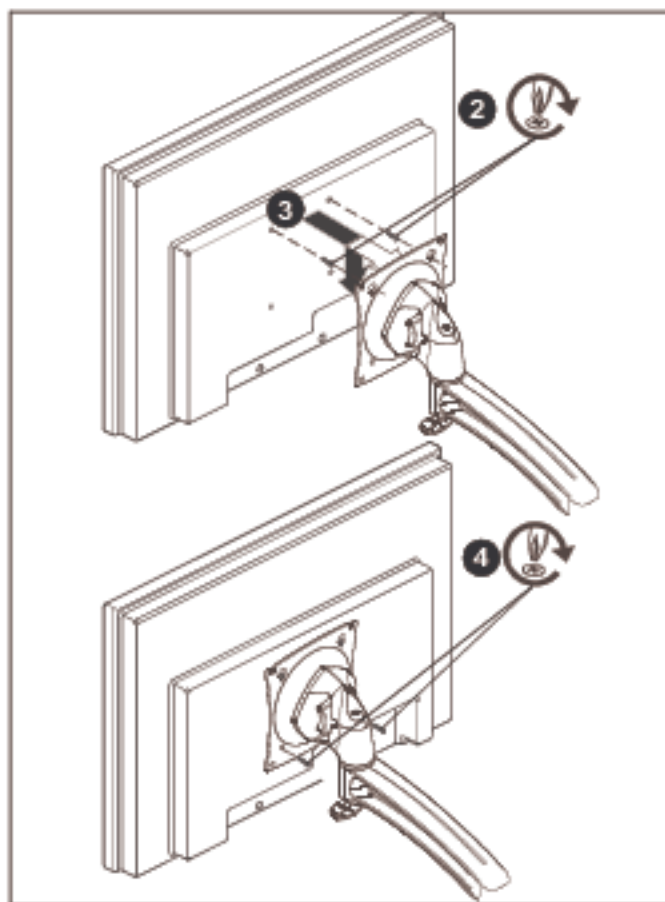

Figure 5
1. Ensure faceplate is able to swivel and tilt easily, yet still be tight enough to hold display in desired position. Adjust as required before proceeding. See "ADJUSTMENT" for detail. (See Figure 5)
2. Using Phillips screwdriver, carefully install two M4x12mm screws (B) into the upper mounting holes on the display. Thread screws completely into display, then back out 3 complete turns. (See Figure 5)
3. Pick up and align display so that screws (B) (installed on the back of the display in the previous step) fit into the mounting holes on the faceplate. Rotate the bracket as required. Lower the display firmly into place. (See Figure 5)
4. Using Phillips screwdriver, install two remaining M4x14mm Phillips screws (B) through the lower mounting holes in faceplate into the display. (See Figure 5)
5. Tighten all four screws (B). Do not overtighten!